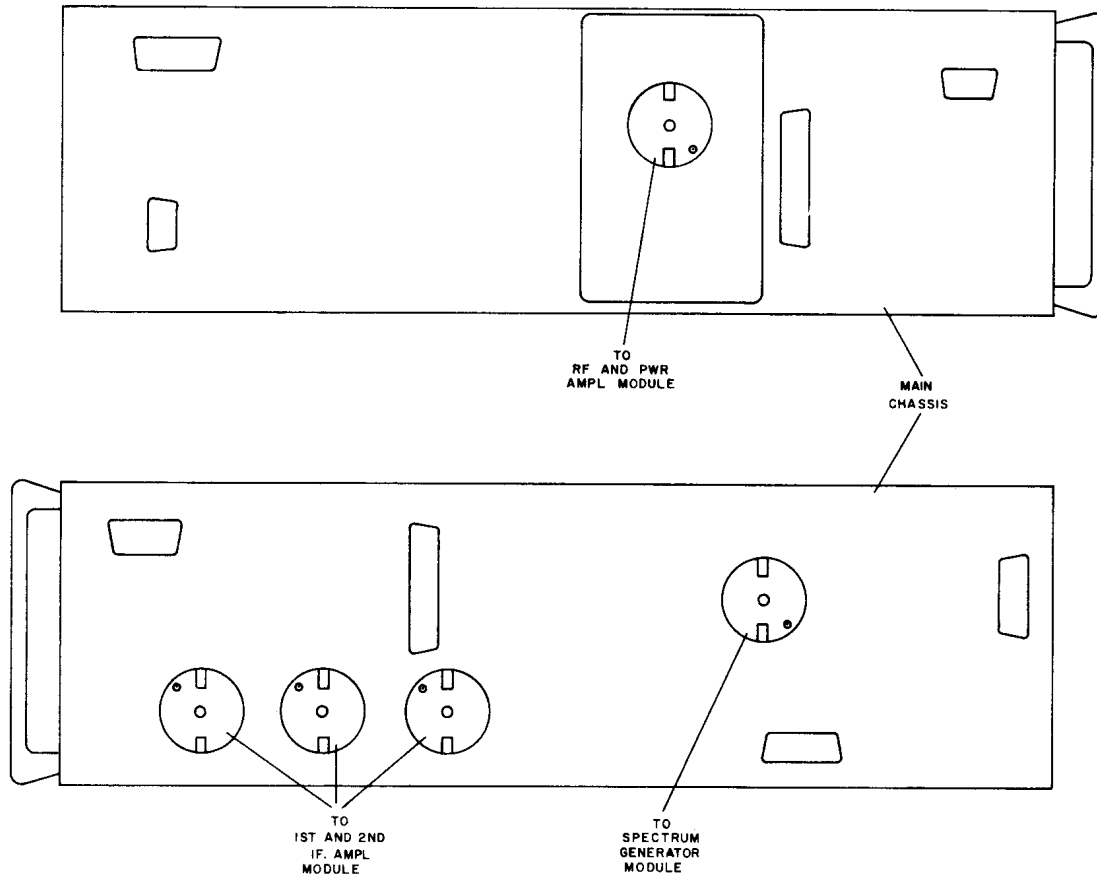

Figure 5-22. Main Chassis Couplers in the 225-MHz Position
(3) PRELIMINARY TEST SETUP. - Refer to figure 5-21. Remove Receiver-Transmitter Case CY3884/PRC-41 from Radio Receiver-Transmitter RT-695A/PRC-41, and connect the dc maintenance adapter to the rear of RT-694A/PRC-41. Connect Power Electric Cable Assembly CX-8687/PRC-41 between Power Supply PP-3700/PRC-41 and 115-volt 50- to 400-Hz primary source. Connect Power Electric Cable Assembly CX-8686/PRC-41 between PP-3700/PRC-41 and the dc maintenance adapter. Connect junction box (figures 5-1 and 5-2) to KY-38 connector 1A9J14 on RT-695A/PRC-41. Connect Output Power Meter ME-2/U to normal audio output jack on junction box to provide required load for audio output circuits. Before performing alignment procedures, turn on equipment, and adjust frequency selector knobs for 225.0 MHz. (For removal of the 1st and 2nd if amplifier module, set the frequency selector knobs to 229.9 MHz.) Set OFF-T/R-T/R/G-DIAL LIGHT switch to OFF, and remove spectrum generator, 1st and 2nd if amplifier, and rf and power amplifier modules according to procedures of paragraph 5-4b. Check position of the couplers on main chassis to see that they are in the relative positions shown in figure 5-22. If the main chassis couplers are properly